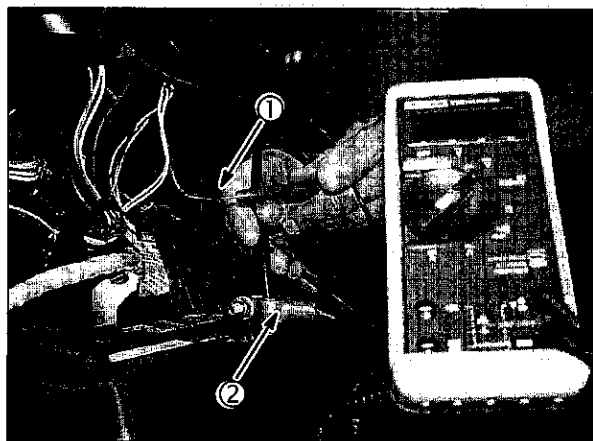

Fig. 36
3. Insert RED meter test lead into the brake interlock switch wire connector (1), Fig. 36.
4. Attach the BLACK meter test lead to the NEGATIVE battery terminal (2).